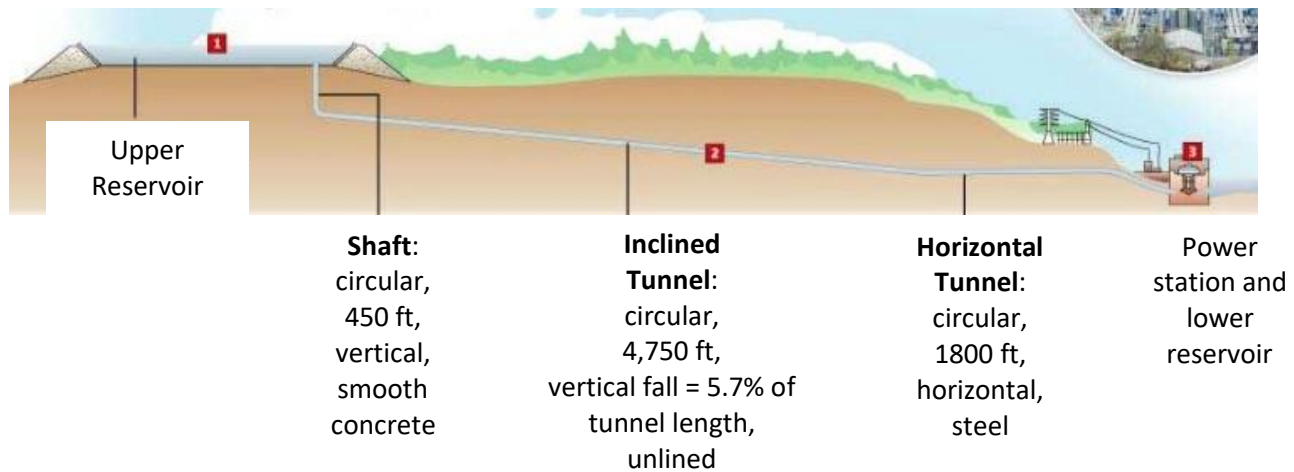

Figure 6. Key parameters of the Taum Sauk system
- Potential energy due to gravity or height. The scientific term that describes the height of a liquid that corresponds to a pressure exerted by the height of the liquid on the base is known as **pressure head** (To calculate pressure head, refer to the parameters presented in Figure 6).